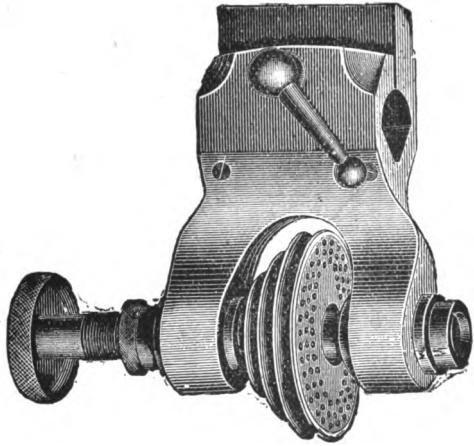

Fig. 3.—Sanspareil.
**Spirit Lamp.**—The ordinary spirit lamp used by watchmakers for hardening, tempering, softening shellac, and many other purposes, is of glass, with an air-tight extinguisher. The form shown in Fig. 3, p. 187, is handier, the spout for the flame may be upright or adjusted at any convenient angle. The wick should not be too tight, and the outside of the lamp should be kept clean.